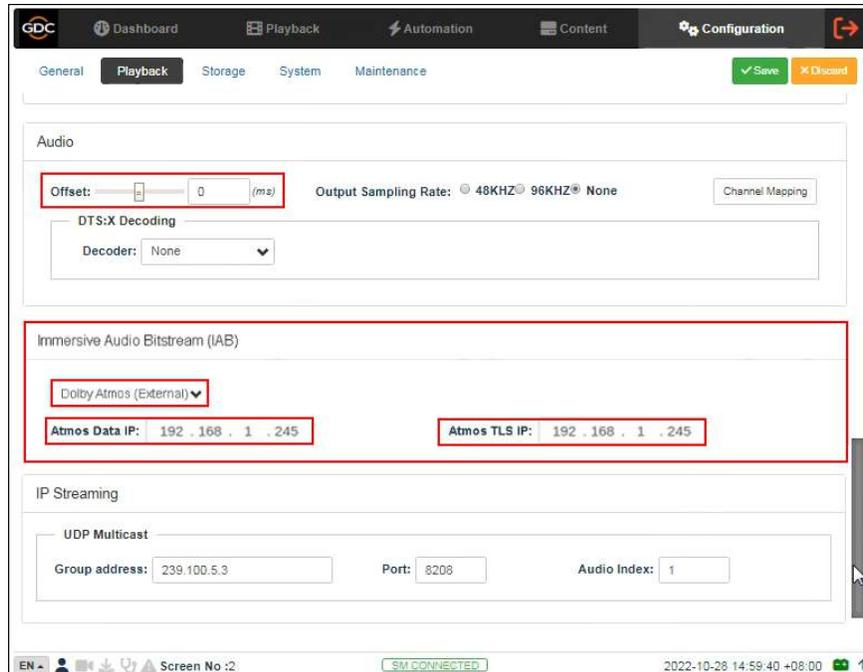

Figure 48: Audio & Dolby Atmos® Settings
3. Under the **Immersive Audio Bitstream (IAB)** section, select the 'Dolby Atmos (External)' option. The **Atmos Data IP** and **Atmos TLS IP** settings must both be set to the 'Dolby Atmos Input' IP set on the CP850. In the example shown in **Figure 48**, the 'Dolby Atmos Input' IP on the CP850 is 192.168.1.245. Under the **Audio** section, the **Audio Offset** value must be set to '-251' ms or '-80' ms depending on the firmware version of CP850.